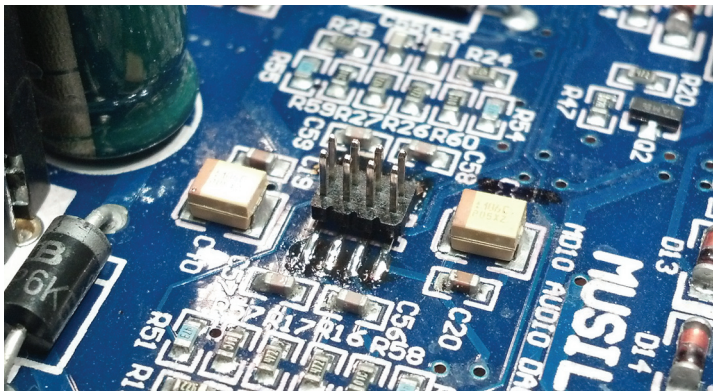

FIGURE 1. (Above) 0.050 2x4 pin header soldered to the existing PCB pads.
STEP 1. Remove the SMT device and install the provided 0.050 2x4 pin header to the existing PCB pads as shown in **FIGURE 1**.